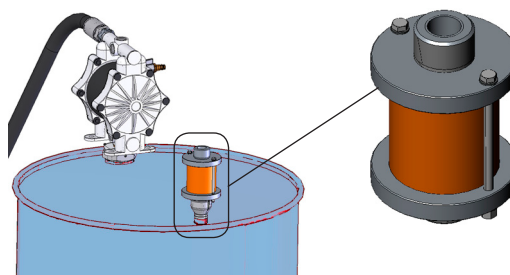

Figure 10.4.
- ① Air pressure valve (trigger lock), (Figure 10.4.):
- ② Material shut-off valves, (Figure 10.4.):